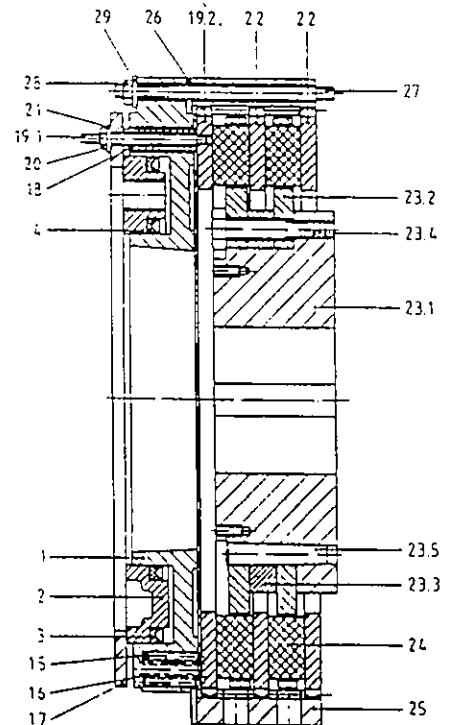
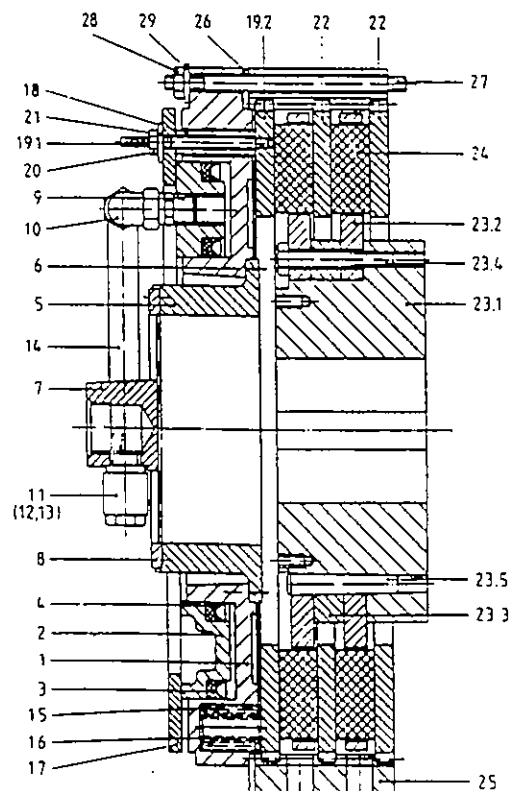

Fig. 1 Two plate version
Fig. 2 Two plate version with flange
The piston (2) can be displaced axially in cylinder (1) and is sealed to prevent air escaping with U-seals (3/4). When compressed air is fed into the piston through the three equi-spaced (120°) tapped holes in the piston (2) (fig. 1) or through the flange (7) and the unions (9 - 13) and high-pressure hoses (14) (fig. 2), the piston with the pressure plate (19) is displaced axially and the brake is released. When the pressure is released, the springs (15/16) return the pressure plate (19) and the piston (2) to their rest position to give a non-positive connection and the transmission of the braking torque.
Slide the actuator (see fig. 1), which is a sub-assembly consisting of the piston (2) with U-seals (3/4), cylinder (1) as well as pressure plate (19) with studs (19.1), bush (18), washers (17) and hexagon nuts (20) with lockwashers (21), on to the studs (27).
The actuator in accordance with fig. 2 has an additional flange (6/8) with unions (7/9/10/11/12/13) and hoses (14). In the case of the two plate version, slide in spacers (26) between housing (25) and cylinder (1) and secure with hexagon nuts (28) and lockwashers (29). No spacers are needed with the single plate version. Tighten up hexagon nuts (28) to the torque specified in table 3.
Size	Nominal size of the valves and air intakes (fig. 2)